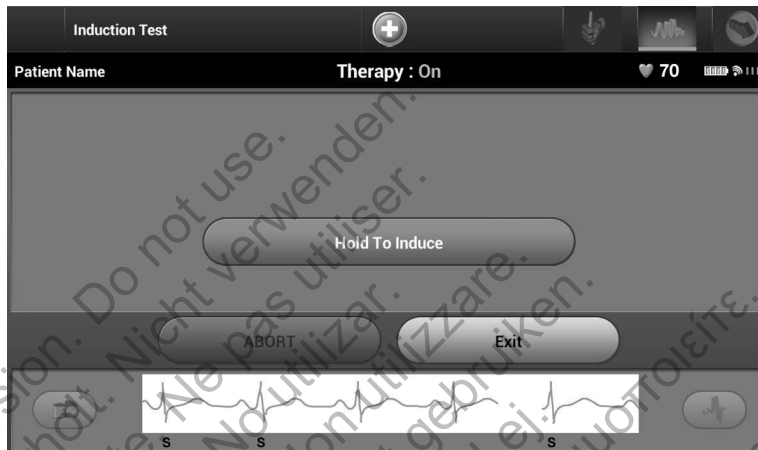

Figure 35: Induction Test screen
6. Select and hold the Hold To Induce button for the desired duration (Figure 35).